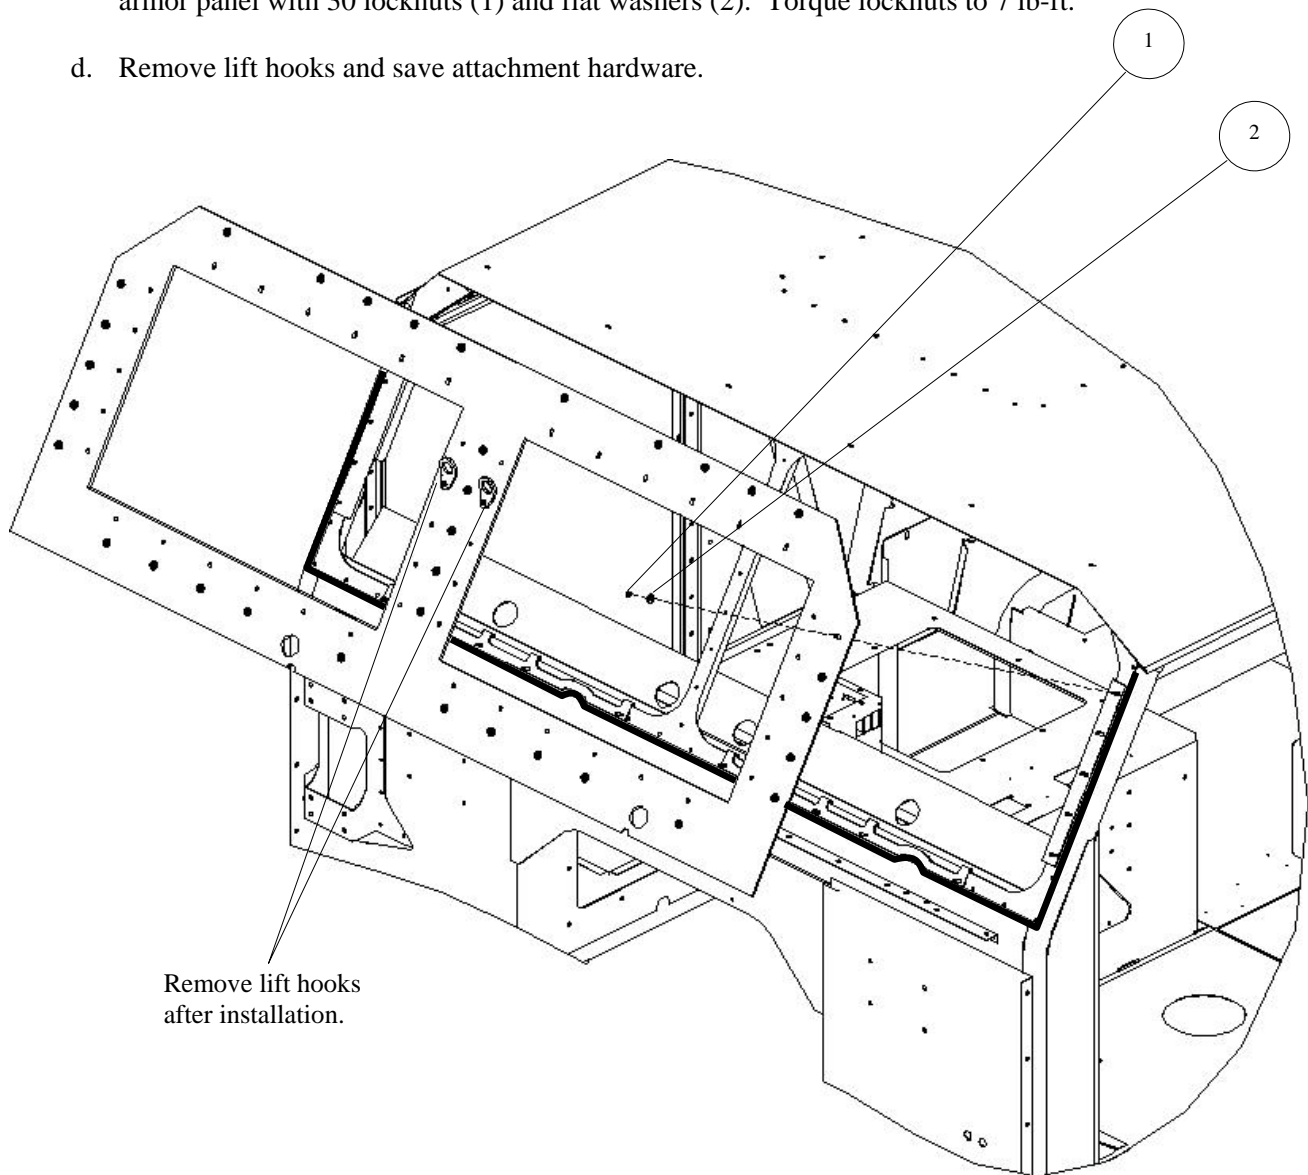

Figure 3-6. Windshield Armor Panel Installation.
5. Install windshield armor panel as follows (see Figure 3-6):